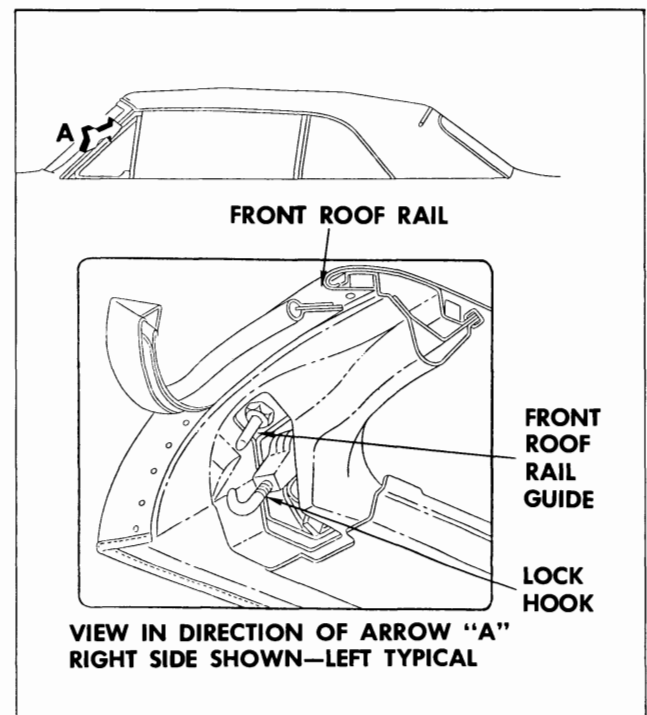

Fig. 21-1 Tempest Front Roof Rail Guide
2. Loosen guide sufficiently to permit adjustment (see Fig. 21-1).